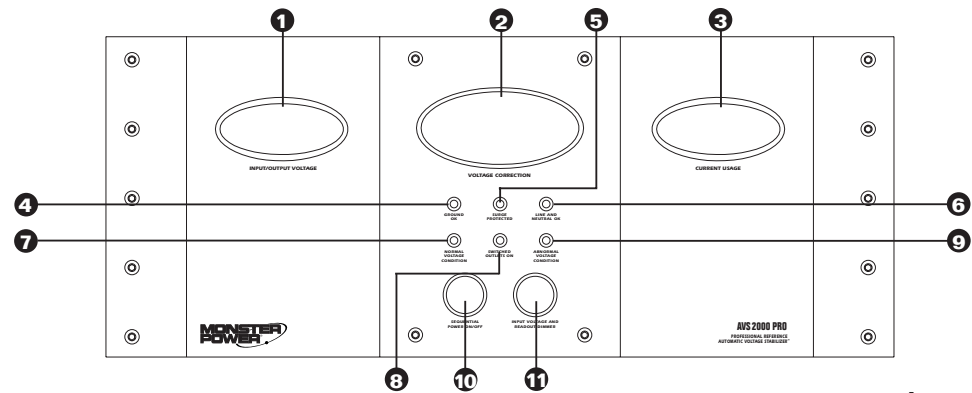

Figure 1
1. **Unswitched Outlets:** Provides power to components or Monster PowerCenters regardless of the status of the Sequential Power ON/OFF button (see Fig.1 #10).
2. **Switched Outlets:** Provides power to connected components only when the Sequential Power ON/OFF button (see Fig.1 #10) is initiated.